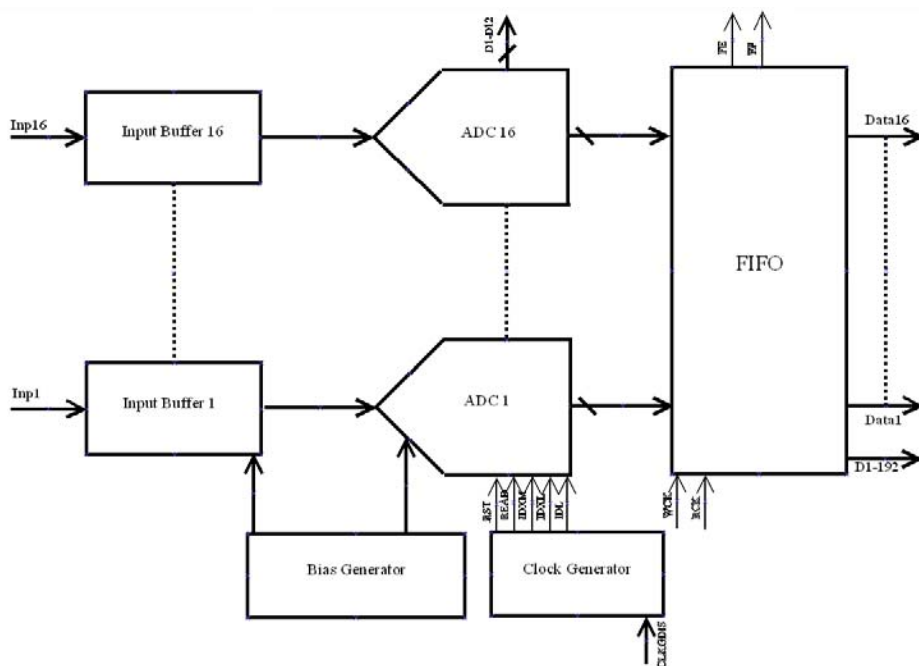
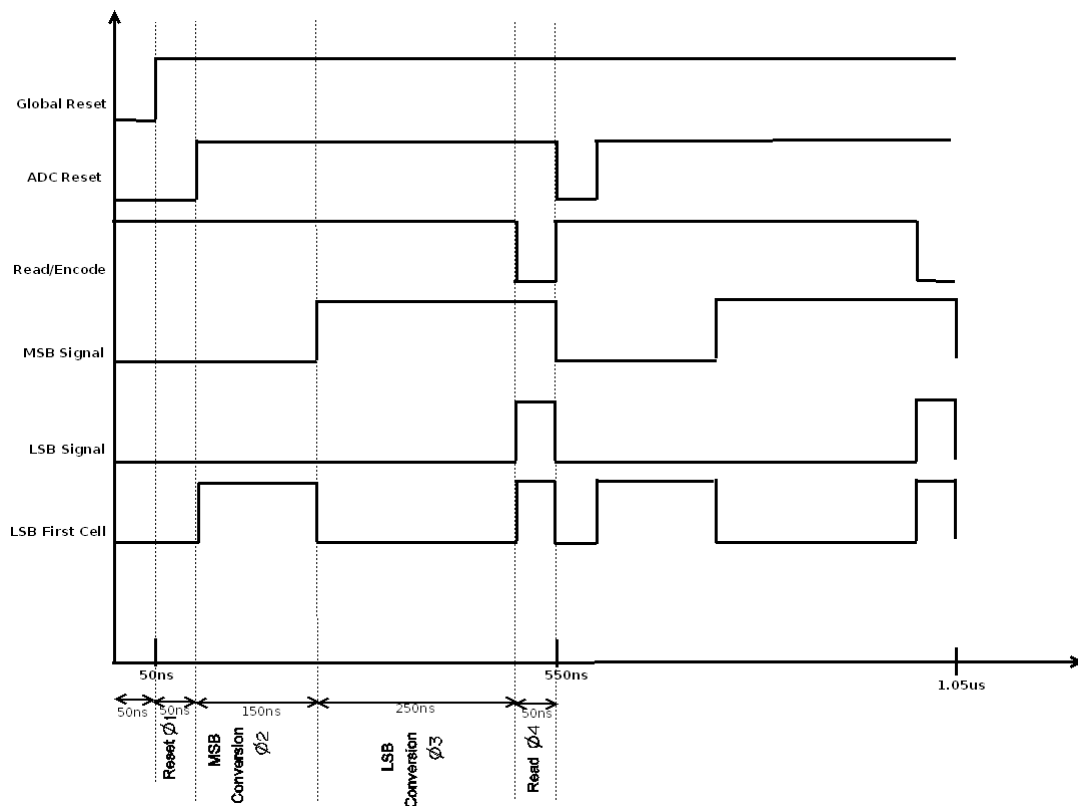

Figure 1 Functional Block Diagram
Figure 2 ADC Timing Diagram
- A power down (PD) feature is used to put the ADC into sleep mode so that very low power is consumed when the ADC is idle.
- Figure 1 shows the functional block diagram of the ASIC and Figure 2 shows the timing diagram of the ADC.